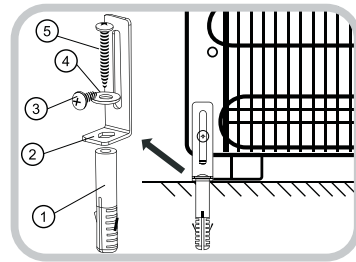

Fig.6
13. Installing the floor Bracket Kit (Fig. 6)